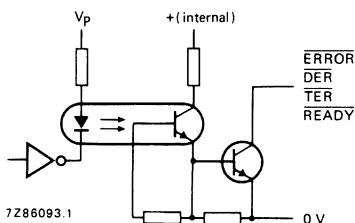

Fig. 6 Circuit diagram of $\overline{\text{ERROR}}$, $\overline{\text{DER}}$, $\overline{\text{TER}}$ and $\overline{\text{READY}}$ outputs.
* Open-collector output; isolated from the internal circuitry with photo-isolator (Fig. 6). To be connected to IM20 inputs.